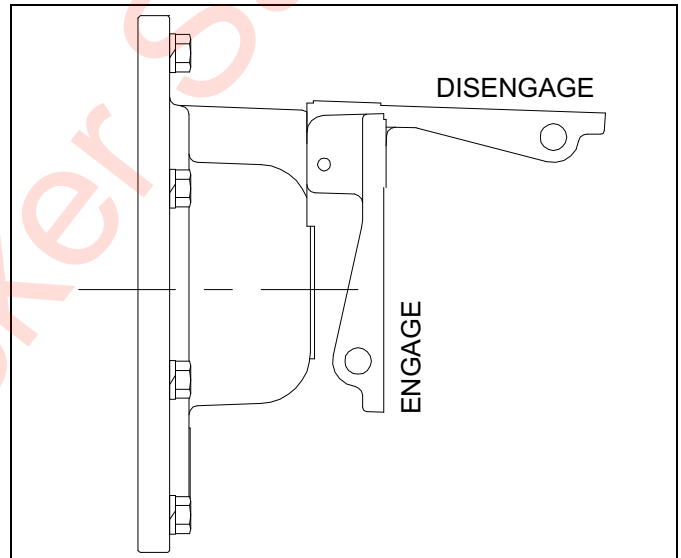

Figure 3-5: DP - Manual Lever Kickout
1. The manual freespool clutch is operated by pulling lever kickout **(See Figure 3-5.)**